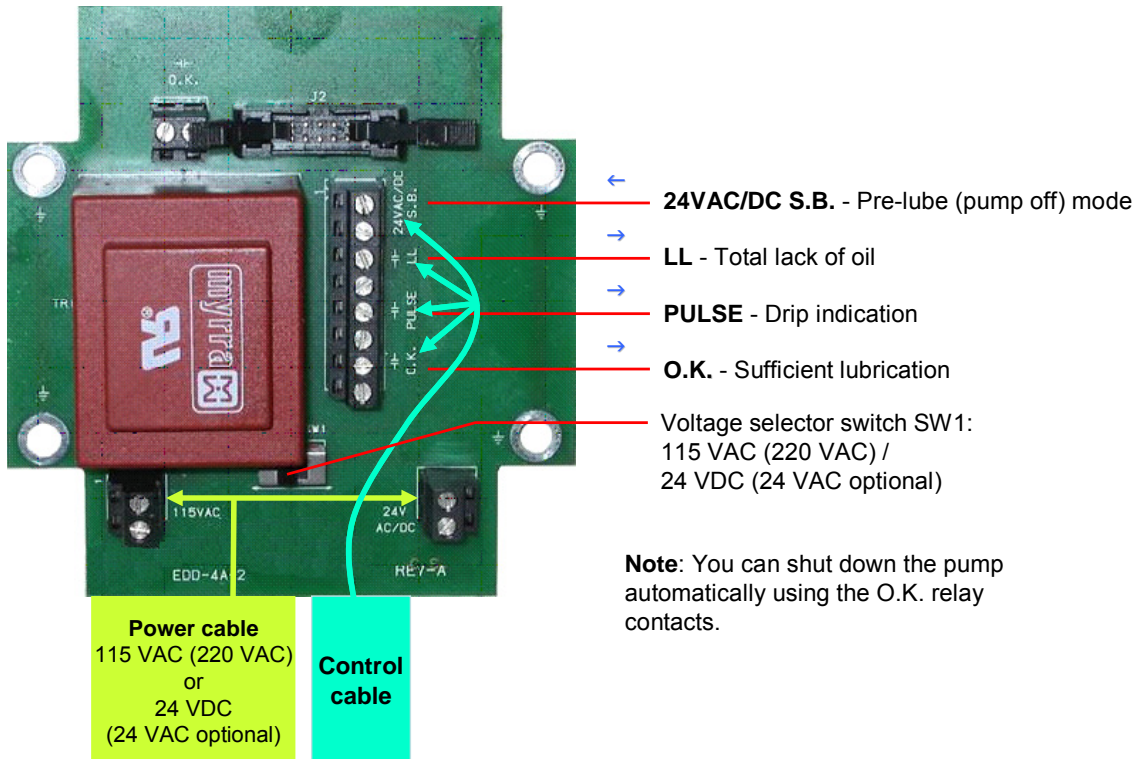

Figure 5: Connection box – electrical terminals: 115 VAC unit shown
Wire the connection box according to Figure 5. Connections are described in detail in Table 1 on page 11.
1. Set the power switch SW1 located just below the transformer, for line power (115 VAC or 220 VAC) or 24 V DC/AC according to your requirements. See Figure 5.